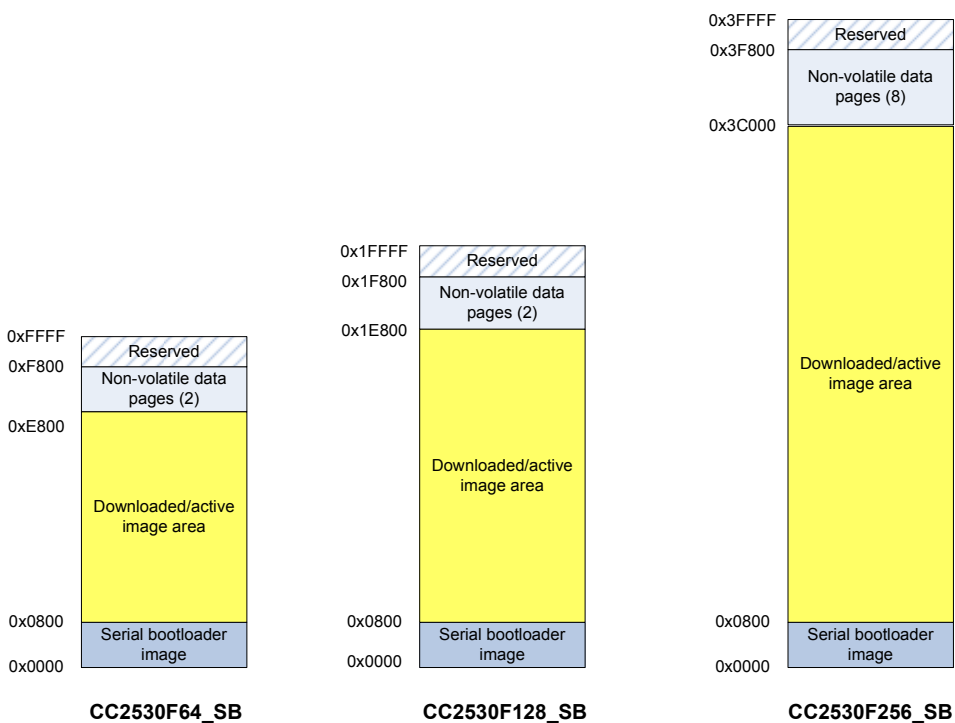

Figure 23. Serial Bootloader (SB) Memory Maps
5.2 RNP with Serial Bootloader (SB)
Figure 23 below shows the memory maps for the CC2530F64_SB, CC2530F128_SB and CC2530F256_SB RNP project configurations. Note that the each configuration is configured with a different number of NV data pages. The lock bit page is only accessible via the debug interface as explained in [7] and can as such not be used for program code downloaded by the serial bootloader (SB). The project configurations also enable programming of the 8 bytes commissioned IEEE address on the lock bit page.